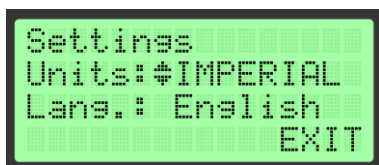

Figure 101 Selecting Measuring Units System
Using Up (▲) and Down (▼) keys, the user can navigate through this submenu and move the cursor to point at the displayed item which could be edited. By pressing Enter (E) the user will enter the mode for adjusting the selected parameter. For Measuring Units System, the user can choose between IMPERIAL or METRIC (See *Figure 101*). The MSC-1015 will display the measuring units depending on this selection. This setting influences the next function of the device: Q[pC], IEPE and FLOW.